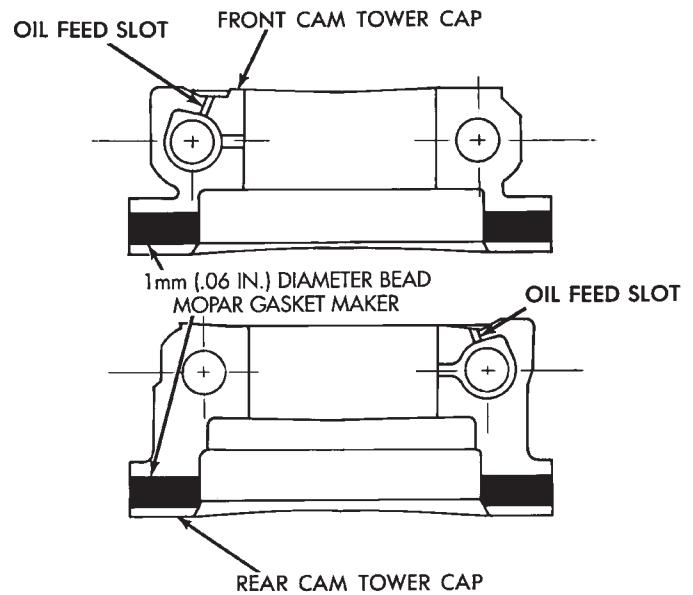

Fig. 11 Cam Tower Cap Sealing
- (3) Apply Mopar Gasket Maker to No.1 and No.5 bearing cap (Fig. 11).
- (4) Caps must be installed before camshaft seals are installed.